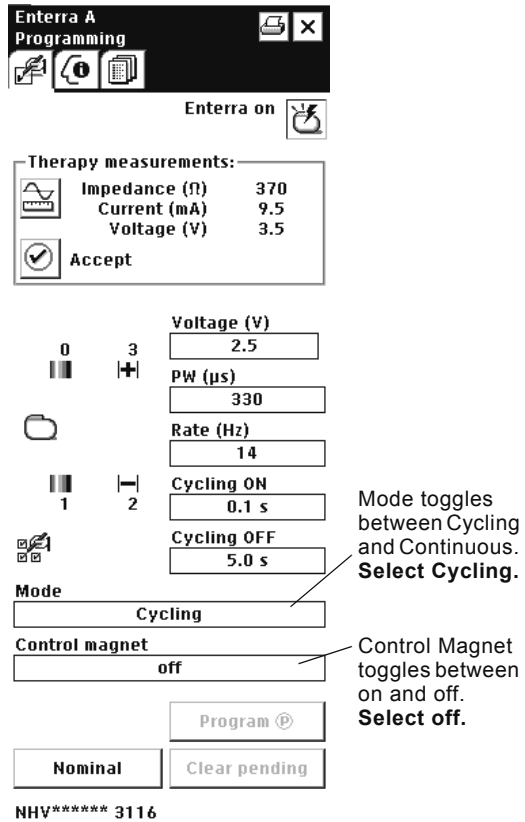

Figure 30. Advanced programming.
- Using the stylus, touch the Mode input box (Figure 30). Contact of the stylus with this area toggles the selection between Cycling Mode and Continuous Mode. Choose Cycling Mode.
- Using the stylus, touch the Control magnet input box (Figure 30). Contact of the stylus with this area toggles the selection between On and Off. Choose Off.